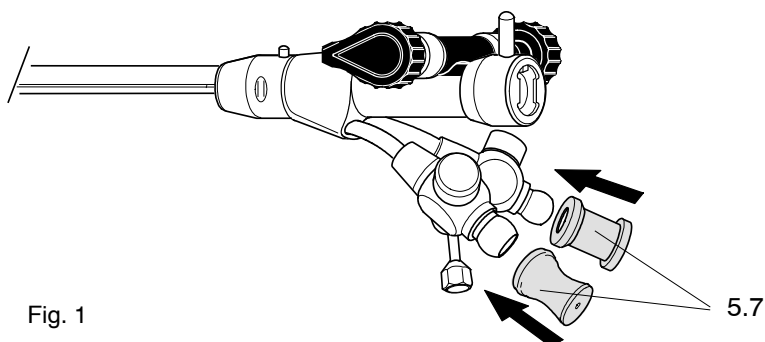

Fig. 1
- ◇ Putting on the rubber caps (5.7) (Fig. 1)